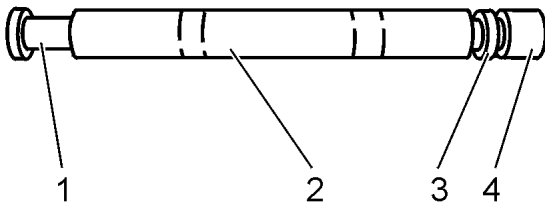

Fig. 14.48. Track Frame Tool (STD)
Install bolt adapter (4, Fig. 14.48) on retainer plug (3). Insert as an assembly, ram rod (1), ram tube (2) and retainer plug (3) with bolt adapter (4) in through front of track frame inserting retainer plug into bore of front spring retainer.